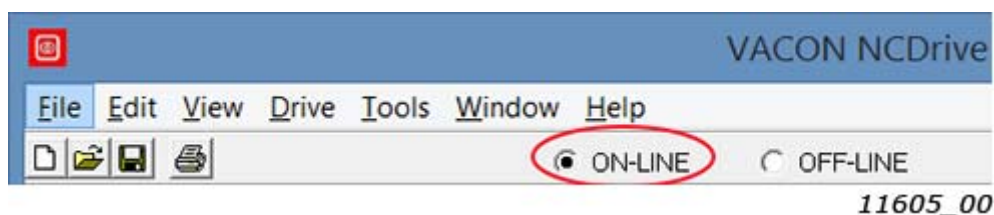

Figure 27. NC Drive: Going online
Step 4. Press the "ON-LINE" button. The NCDrive will connect to the drive and start loading parameter information. This will take a few minutes. See Figure 27 and Figure 28.